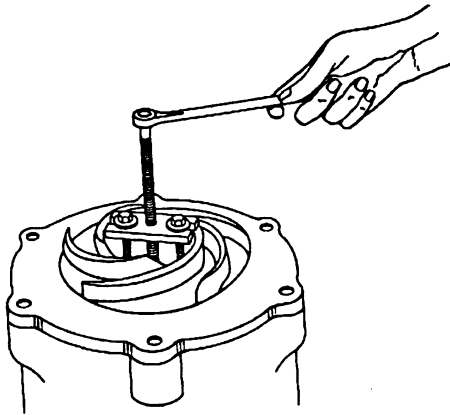

Figure 3. Removing Impeller With Puller
Remove the wood from the impeller vanes, and remove the capscrews (53) temporarily installed in the seal plate and lower motor housing. Refer to Figure 3, install the impeller puller supplied with the pump, and pull the impeller from the shaft. Use caution when removing the impeller; tension on the seal spring will be released. Retain the impeller key (52).